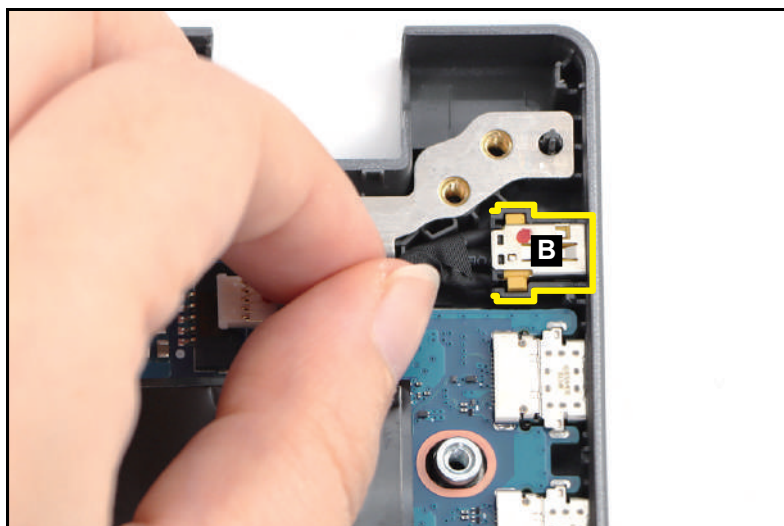

Figure 3-57. DC-IN Cable Removal
2. Remove the DC-IN cable (B) from its slot on the top assembly (Figure 3-57).